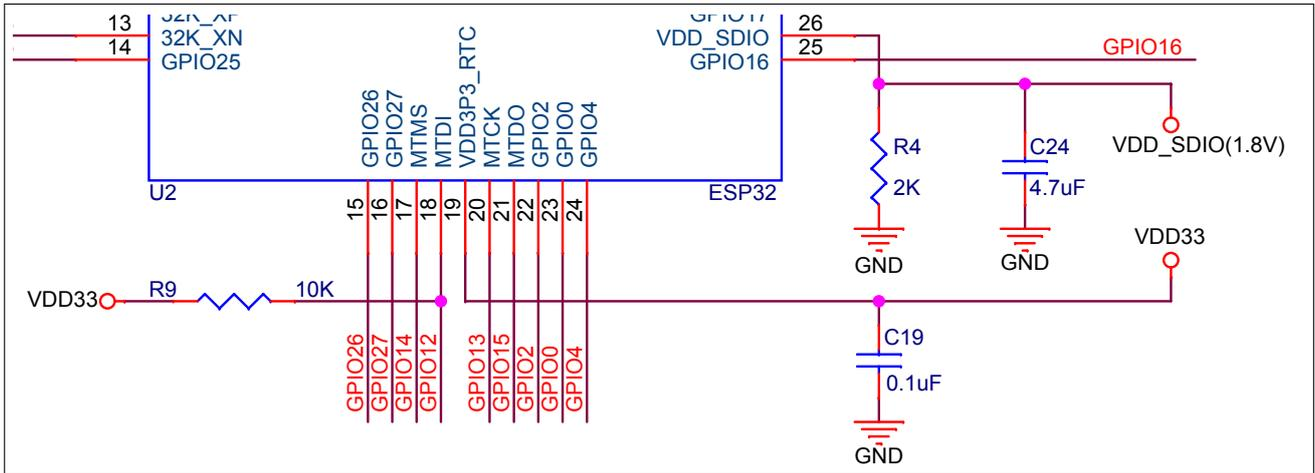

Figure 3: Schematic for 1.8 V VDD_SDIO Power Supply Pin
- When VDD_SDIO operates at 1.8 V, it's powered by ESP32's internal LDO. The maximum current this LDO can offer is 40 mA, and the output voltage range is 1.65 V ~ 2.0 V. When the VDD_SDIO outputs 1.8 V, it is recommended that users add a 2 kΩ ground resistor and a 4.7 μF ground capacitor close to VDD_SDIO. See Figure 3.